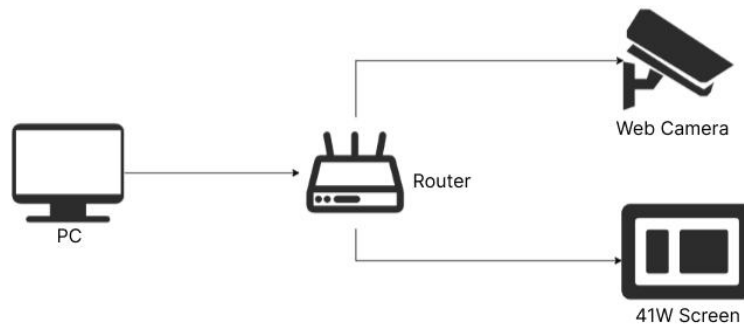

Figure 5.2
(2) As shown in Figure 5.2, when wired connection, please connect the PC, web camera, and screen to the same LAN through a router. WLAN connection can refer to Part 6 of this guide, "3. How to connect to the WIFI network?". If the web camera is used for the first time, please register and activate it according to the method provided by the supplier.